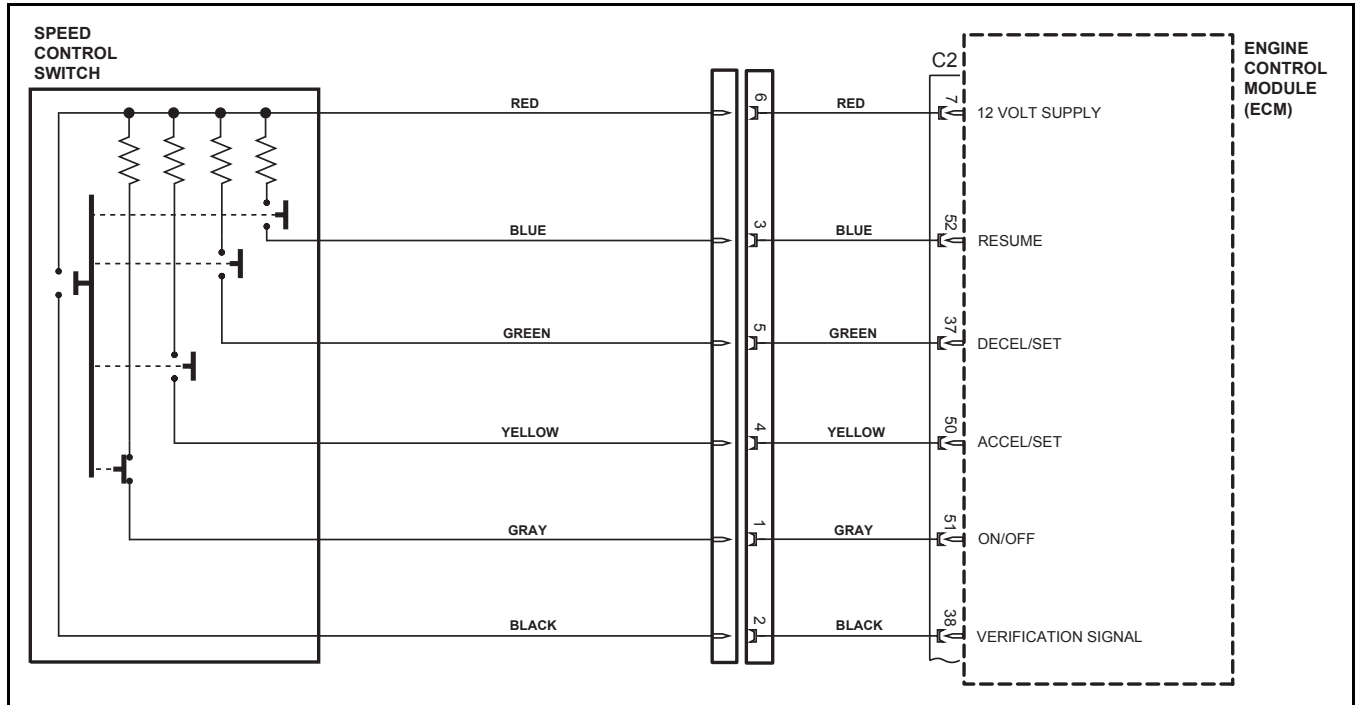

Figure 248 Wiring Diagram, Speed Control Circuit
19. Check the wires and cavities for proper position with the wiring diagram below (Figure 248). Plug the six-pin connector to the speed control switch connector. Reassemble the 58-pin connector. Install the connector back to the engine control module (ECM) and push the module back into its mounting bracket. Ensure the ECM is properly held in place by means of the tensioning spring clips.